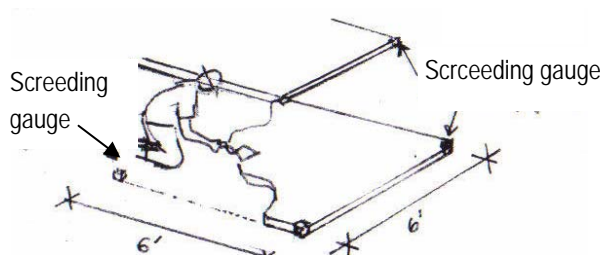

Fig 23 - **Laying floor screed**
- Made sure that the 5/8" thick cement rendering is properly level by placing the concrete within alternate 6'x 6' bays with screeding gauges (Screed mounds to 5/8" thickness) at four corners of each square bay and trowel led smooth (See fig. 23)